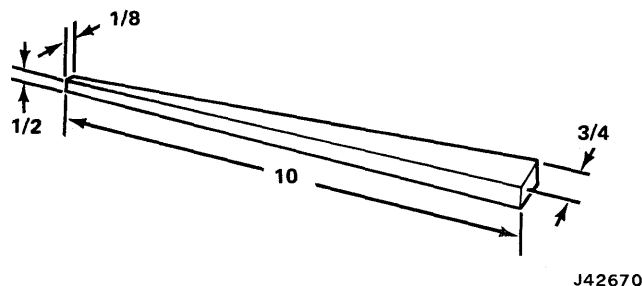
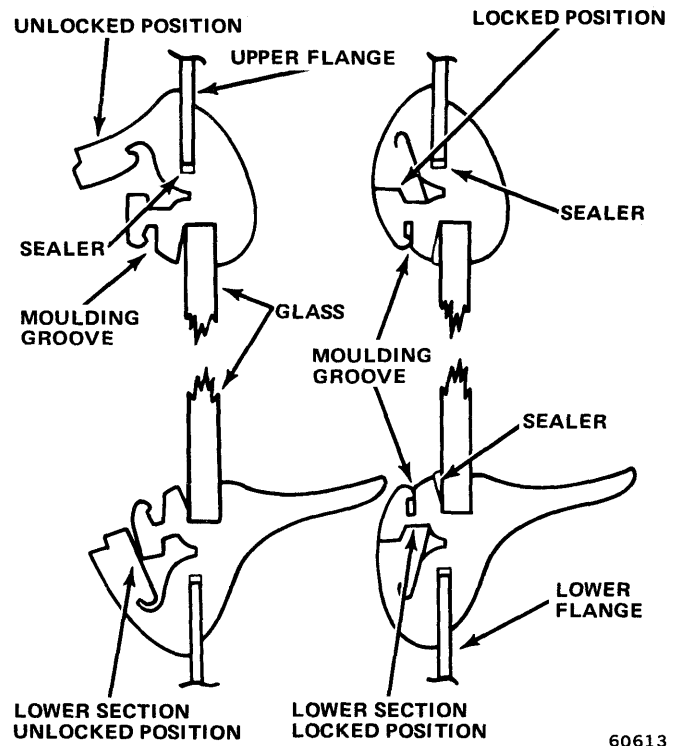
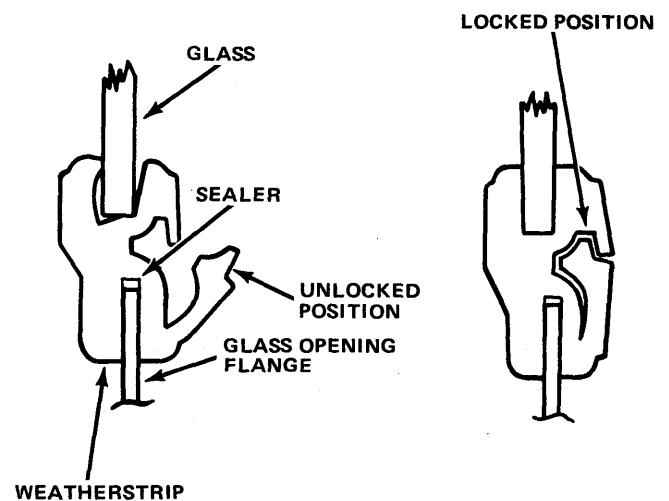

Fig. 17-1 Wooden Wand Dimensions (Inches)
Fig. 17-2 Windshield Weatherstrip Cross Section —Moulding Removed
Fig. 17-3 Windshield Weatherstrip Cross Section
(4) Slide center moulding clip to left or right and remove bottom mouldings. This will expose the locking type weatherstrip.
(5) Use a wedge-shaped fiber or hardwood stick or wand as shown in figure 17-1 to unlock the weatherstrip as shown in figures 17-2 and 17-3. (The locking type weatherstrip without mouldings is shown in figure 17-3.)
- (1) Clean old sealer from windshield opening flange.
- (2) If removed weatherstrip is to be reused, be sure glass cavity and flange cavity are clean.
- (3) Using 3M Auto Bedding and Glazing Compound or equivalent, apply a 1/16-inch bead of sealer completely around weatherstrip in flange cavity as shown in figure 17-2.
- (4) Install weatherstrip on windshield opening flange.
- (5) Apply a liberal amount of liquid soap solution in glass cavity of the weatherstrip.
- (6) With two men working on the outside of the vehicle, work windshield into upper glass cavity and into each side. Position wooden wand under bottom of glass and lift windshield up and into lower glass cavity. Check for equal side clearances.
- (7) Use wooden wand to lock weatherstrip as shown in locked position (fig. 17-2 and 17-3).
- (8) Use 3M Windshield Sealer or equivalent and apply sealer between the weatherstrip and glass on outside of glass around entire perimeter (fig. 17-2).